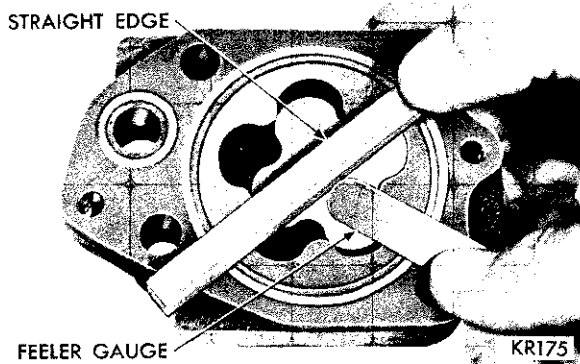

Fig. 61—Measuring Clearance Over Rotors
- (5) Slide the outer rotor and inner rotor into the pump body and place a straightedge across the face (between the bolt holes), as shown in Figure 61.
- (6) If a feeler gauge of more than .004 inch can be